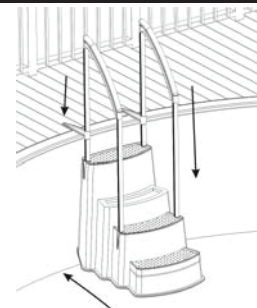

Fig. 4
4. Place the step against the pool wall, but leave at least one (1) inch between the step and the wall. Ensure that the step touches the ground solidly. Lower the braces until they rest on the deck (fig. 4).